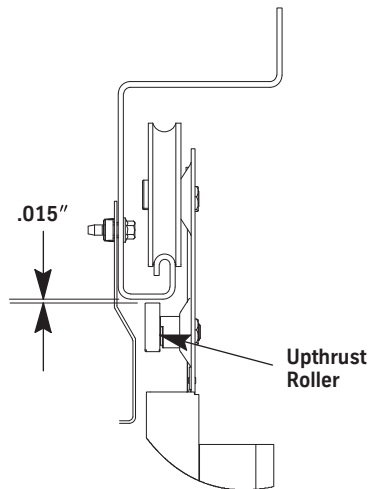

Figure 64- Adjust Upthrust Roller Clearance
2. Adjust the eccentric so that a gap of .015" is between the upthrust roller and the door track. See Figure 64.